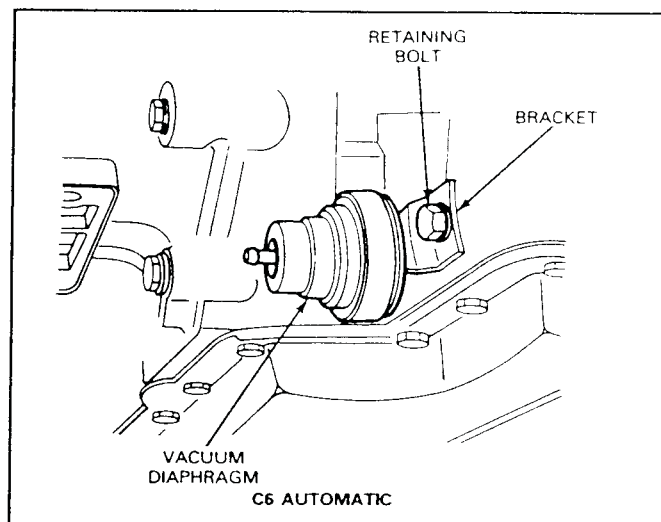

FIG. 28 Vacuum Diaphragm Installed—C-6 Transmission
2. Remove the vacuum unit retaining bracket bolt and bracket (Fig. 28). **Do not pry or bend the bracket.** Pull the vacuum unit from the transmission case.